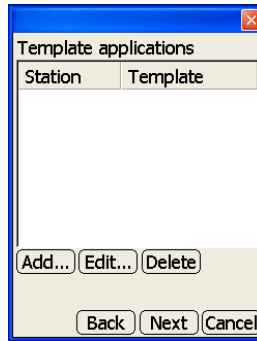

Figure 2-25. Template Application Dialog Box
17. On the *Template applications* dialog box, press **Add** to create a template application, or press **Edit** to change a template application (Figure 2-25).